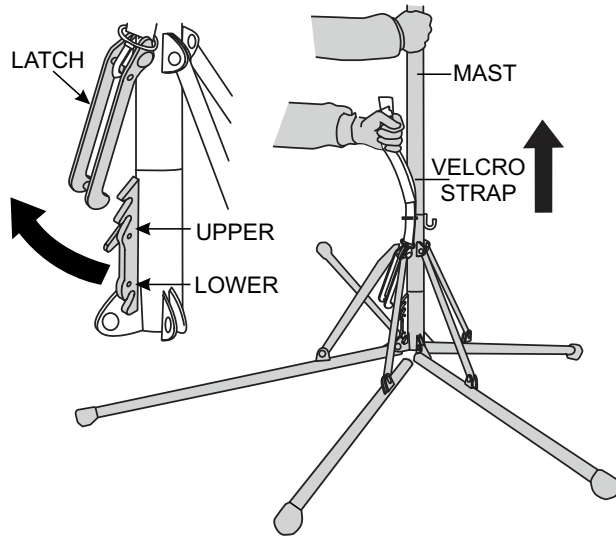

Figure 22. Retracting Pentapod Legs
7. To retract pentapod legs (Figure 22) and place in the stow position, grab hold of the mast while pulling up on the velcro strap (releases latch). Continue pulling upward on the velcro strap until the pentapod legs are fully retracted and are in the stow position.